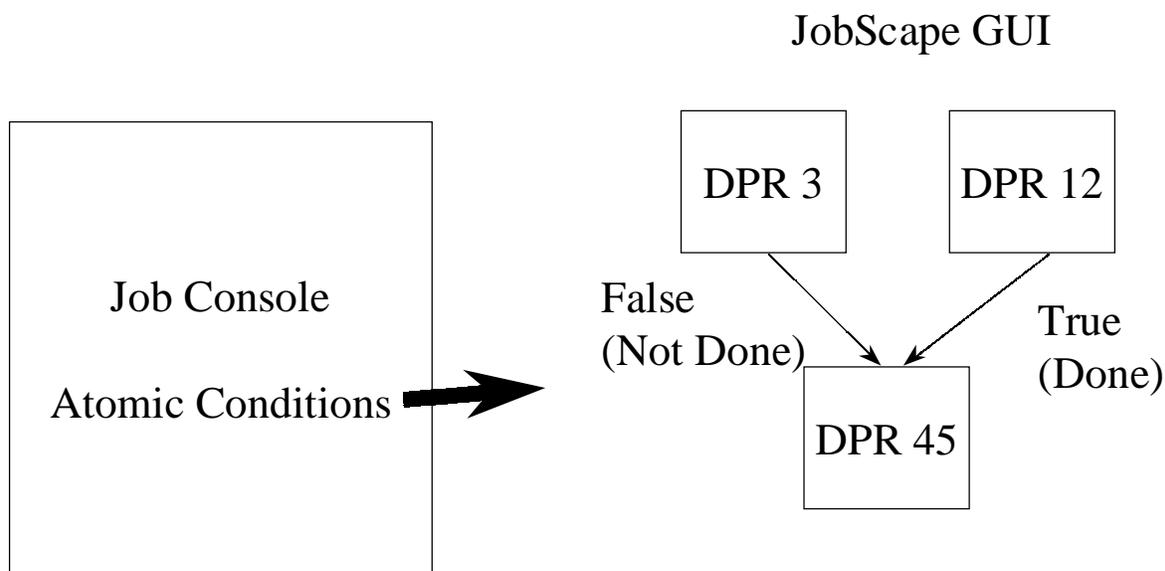

Figure 51. Atomic Conditions and Upstream Dependencies
- Figure 51 shows how atomic conditions relate to job dependencies as displayed using JobScape. (In this case DPR3 and DPR12 are atomic conditions for DPR45.)